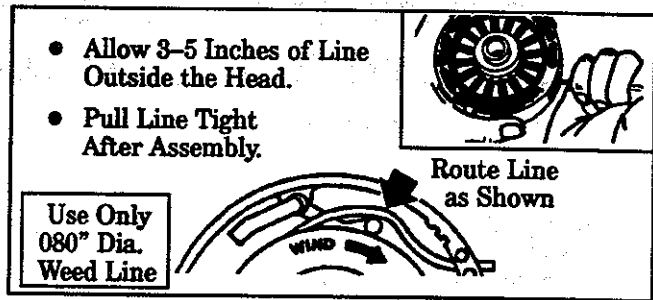

Figure 23
- e. Insert about 6 inches of Line from the inside of the Hub through the Line Exit Hole to the outside to keep the Line from backing into the Head. Figure 23 .
- f. Route the Line behind the Balancing Pin (Figure 23 ) while carefully placing the Spool in the Hub.
Pin and will feed continuously when the Trimmer Head turns. Remove Cover and re-route Line as shown in Figure 23 .
**i. Check to make sure all four Catches and the Lock Tab are properly fastened as shown in Figures 23 & 25 , then test the Cover by trying to turn it counterclockwise.**